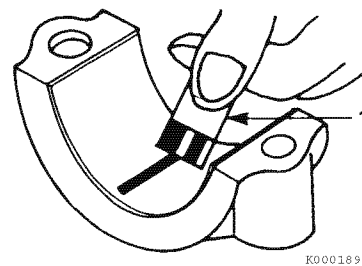

Figure 6-54
7. Compare the width of the flattened PLASTIGAGE (Figure 6-54, (1)) to the graduation marks on the package. The mark that most closely matches the width of the flattened PLASTIGAGE will indicate the bearing oil clearance. Record the measurements. See *Crankshaft* on page 6-8.